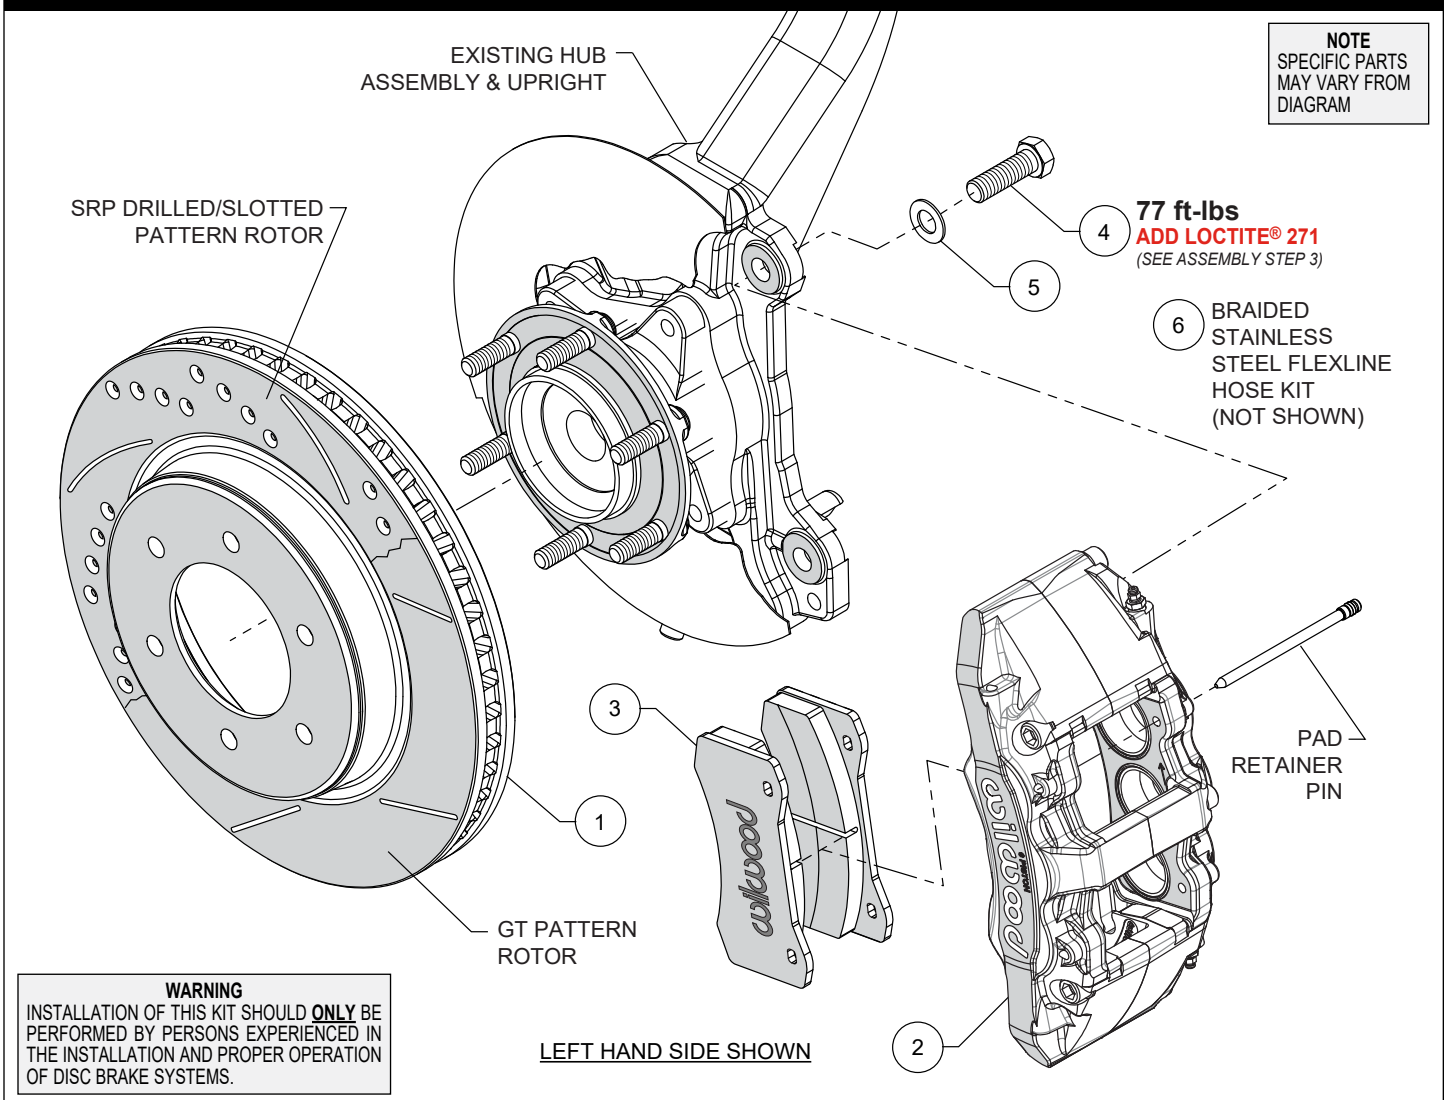

Figure 1. Typical Installation Configuration
Numbers in parenthesis refer to the parts list and Figure 1 on the preceding pages.
STEP 1 Slide the rotor (1) onto the hub. **NOTE:** The rotor must fit flush against the hub flange or excessive rotor run out may result. Install three lug nuts (finger tight) to keep the rotor in place while continuing with the installation, Photo 1.
STEP 2 Remove the two pad retaining pins from the caliper (2), Figure 1. Insert the brake pads (3) into the caliper, with the friction material facing the rotor, as shown in Photo 2. Secure the brake pads in place with the pad retaining pins, Figure 1 and Photo 3. **CAUTION:** Ensure pad retaining pins are completely engaged into caliper, Photo 4. It is recommended to use a small flat punch and hammer to tap the pins in until they are fully seated.
STEP 3 **NOTE:** This kit contains distinct right and left hand calipers that must be mounted in a specific direction, as described below. Ensure that the caliper is mounted so the largest pistons are at the rotor exit end of the caliper, in relation to the forward direction of the rotor. Mount the caliper (2) onto the OEM caliper mounting bosses of upright using bolts (4) and washers (5), as shown in Figure 1 and Photo 5. Apply red *Loctite*® 271 to bolt threads, and torque to value shown in Figure 1.